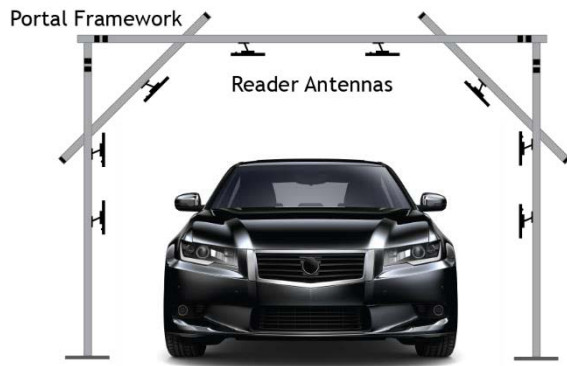

Figure 5. Drive through Portal Configuration with Portals on Both Ends of the Water Bath
The battery-free sensors harness energy from the wireless radio frequency (RF) energy emitted by multiple antennas connected to the processing system’s reader electronics. The antennas are mounted on a drive-through structure or “portal” directly over the moving assembly line (Figure 5). The reader electronics cycle through the sensors to collect data for each vehicle.